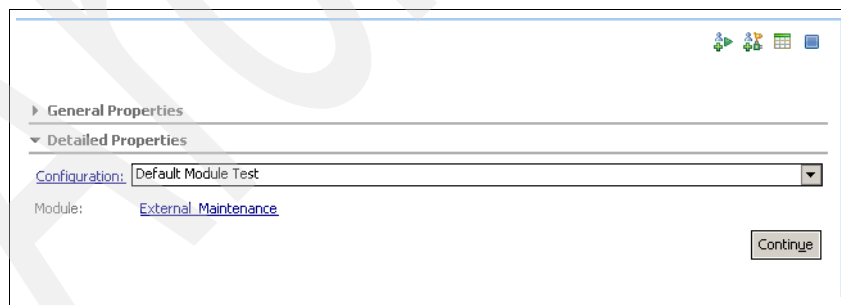

Figure 3-32 Events window
2. In the Events and Attach window, click **Continue** (Figure 3-32).